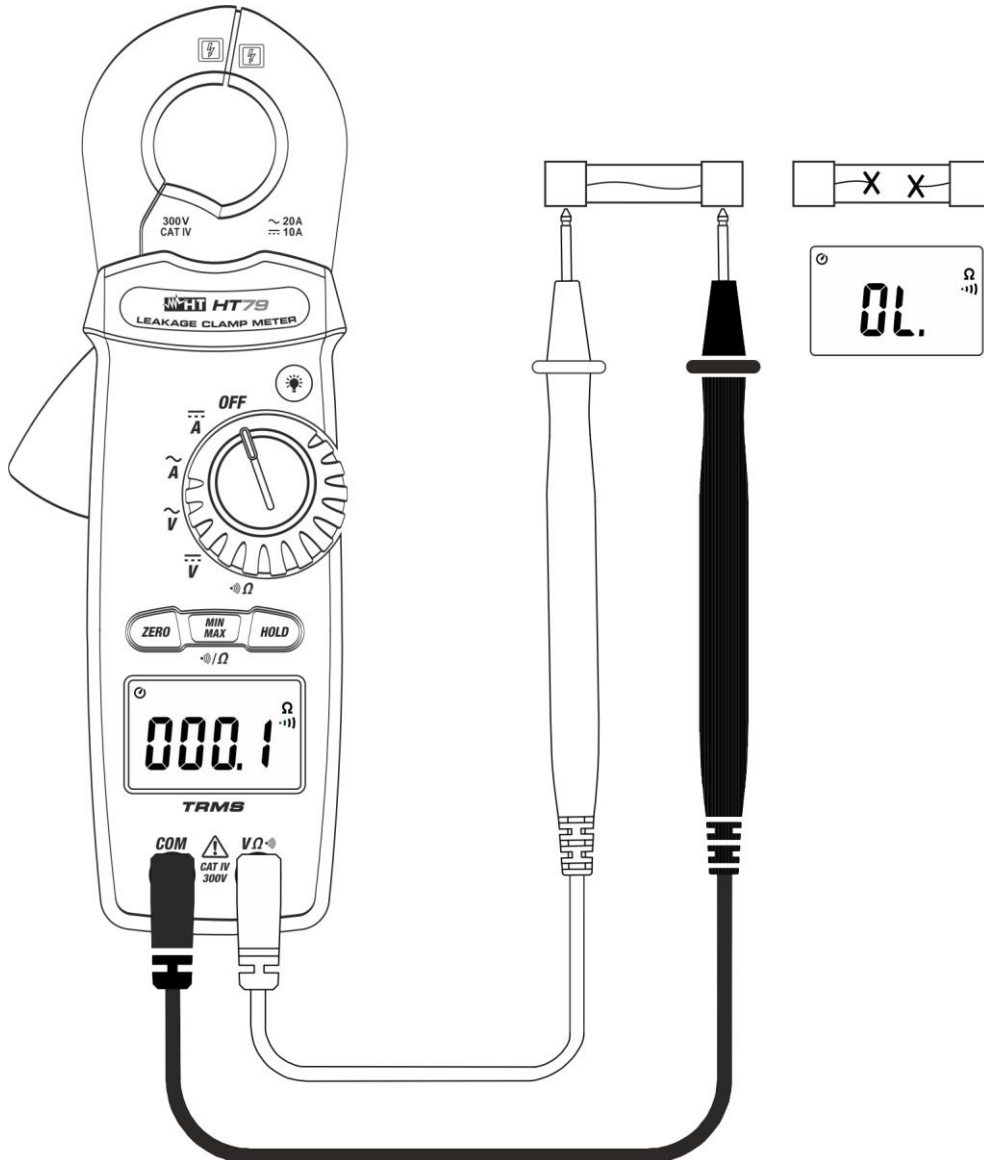

Fig. 7: Use of the instrument for Continuity test
3. Insert the red cable into input terminal **V Ω** and the black cable into input terminal **COM** and carry out the continuity test on the object to be tested (see Fig. 7). An buzzer sounds when the measured value of resistance is lower than 100. Ω